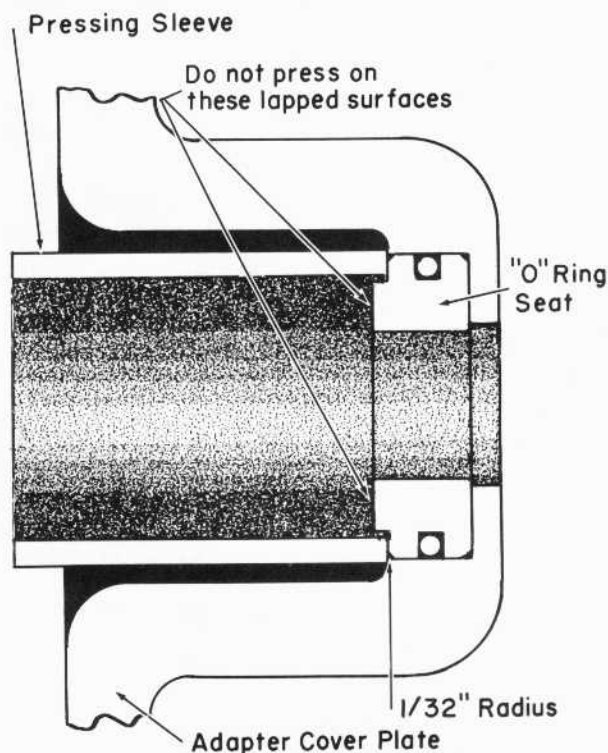

Fig. 2 - Installing "O" Ring Seat
1. Make certain there is a $1/32$ " minimum radius (do not chamfer) on the edge of the cavity which holds the seat, see Fig. 2.
NOTE: If it is not possible to insert seat with the fingers, press seat into the bore using a piece of tubing having a square cut end, Fig. 2.